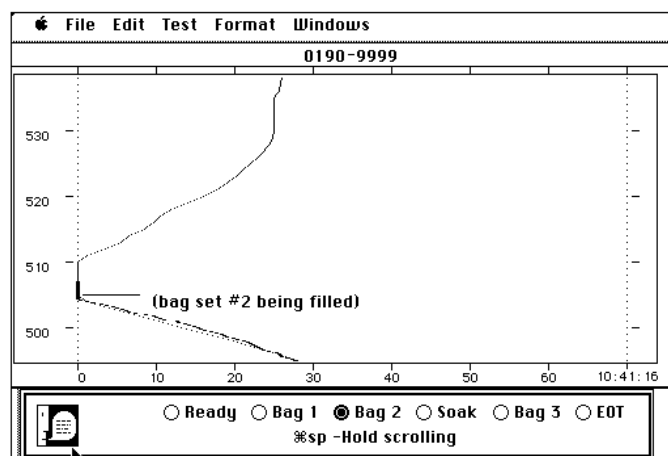

Figure 10
- 316 (Site Operator) At the 505-second point of the UDDS, the VDA will automatically switch to the second set of sample bags. See Figure 10.